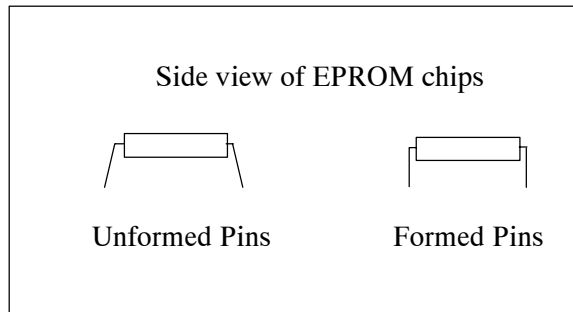

Figure 4.4. EPROM Pin Alignment
6. The pins of the new EPROMS may not be formed to fit directly into the sockets. To form the pins, hold the chip by its ends. Press the chip up against a hard flat surface with the pins running adjacent to the surface. Firmly rotate the chip to bend the pins slightly toward the other set of pins. (See Figure 4.4).